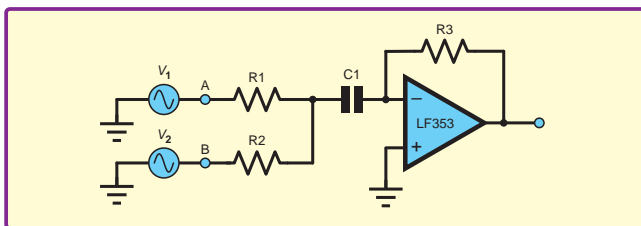
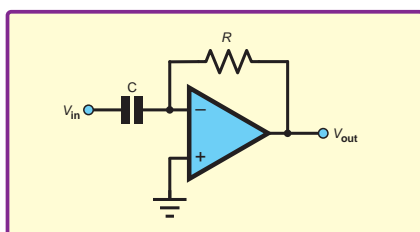

Fig.1. Michele Oliva's circuit from EEWeb Forum (with some edits to labelling)
Fig.2. Basic op amp differentiator circuit
**LAST MONTH**, we addressed a question posted on the EEWeb forum by Michele Oliva about the circuit in Fig.1. The question concerned the interaction of the signals from two sources ( $V_1$  and  $V_2$ ), rather than the overall operation of the circuit. However, we noted in passing that the circuit was something like a 'summing differentiator', and that it was worth looking at op amp differentiator circuits in their own right, so that will be this month's topic.
We start with the basic ideal op amp differentiator (as shown Fig.2) and use it to introduce the basic principles and theory of operation of this circuit. Later, we will discuss the need for additional components (such as  $R_1$  in Fig.1) for practical circuits.
The circuit in Fig.2 is called a 'differentiator', but what exactly do we mean by the term 'differentiator'? The answer is that this circuit performs the mathematical operation known as 'differentiation' – its output is proportional to the time derivative of the input signal. If you have studied (and can remember) calculus this may be a sufficient description, otherwise we need to answer the next question, 'what is a time derivative?'.
The characteristic equation for the capacitor shows us the current through a capacitor is proportional to the time derivative of the voltage across it, which is why there is a capacitor at the input of the differentiator circuit in Fig.2.
For a current measurement to be perfect the voltage dropped across the ammeter must be zero. In practice, this is not possible, but an op amp current measurement circuit can get close, at least over a limited range of relatively small currents, by using a virtual earth as the current input. We discussed virtual earths last month, but will recap briefly here. For a circuit such as that in Fig.2, where the op amp is used with negative feedback, and the non-inverting input is grounded, the inverting input behaves as if it is connected to ground. This is because the op amp is acting as a feedback control circuit trying to keep the voltage across its inputs at zero. If the non-inverting input is at zero (because it is grounded) then this control of the voltage difference will ensure the inverting input is always at zero too. For a real op amp this process will not be perfect, but with a high performance, very high open-loop gain op amp it can be a very good approximation.